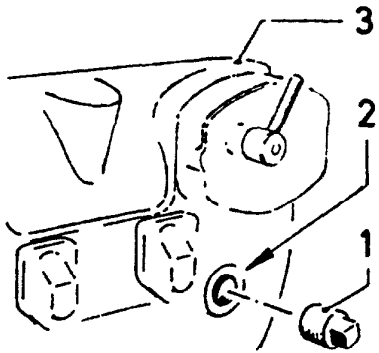

Fig 71
Engines not incorporating a plug for easier access (fig 71, item 2), the crankcase cover (3) must be removed to enable the oil pressure relief valve to be checked.
2. Close fuel cock, disconnect pipes from lift pump, filter and injector pumps. Loosen and lift off crankcase cover (3) without dismantling.
3. The oil pressure relief valve (9) can then be seen in the centre hole (6). Unscrew the valve, dismantle and clean components in fuel oil or kerosine. If the valve seat shows any sign of damage, the valve should be renewed (S1-2G54gb).